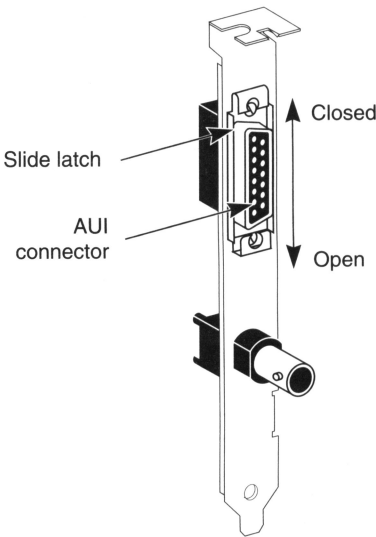

Figure 5-4. Slide Latch
- 1. **Locate the adapter's AUI connector and move the slide latch to the closed position to lock the cable, as shown in Figure 5-4.**